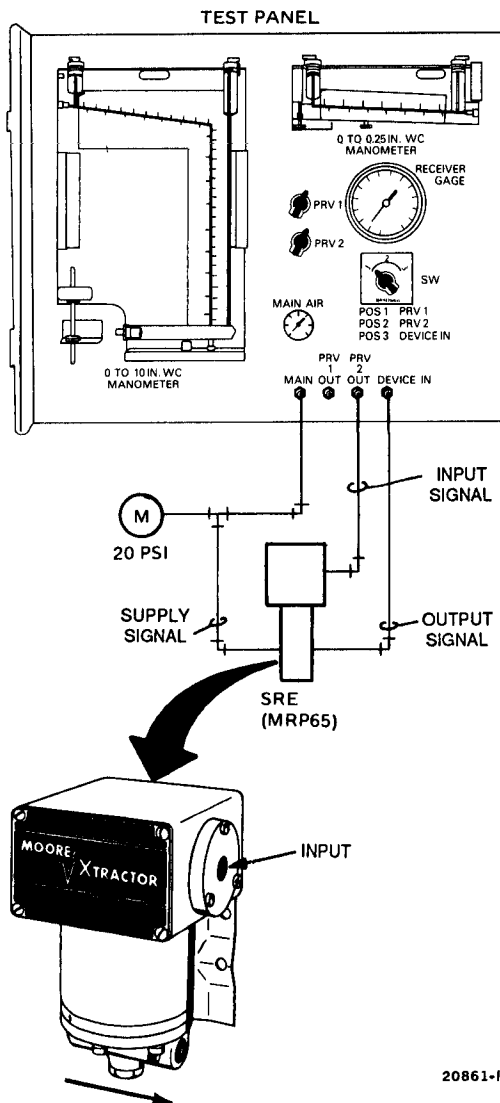
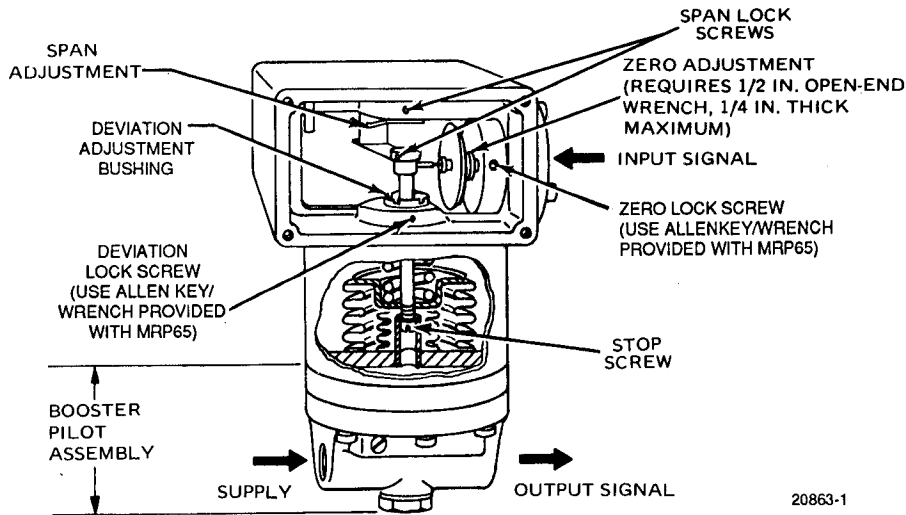

Fig. 11. Test Panel Setup for SRE (MRP65).
Fig. 13. SRE Calibration Adjustments.
1. Pipe SRE per Figure 11.
There are three MRP65 SRE calibrations: zero, deviation, and span adjustments. The calibrations must be performed in the same order. A stop screw alignment adjustment is also incorporated, but should not be used unless the screw has been turned. For complete calibration, remove SRE from service and pipe it to the test panel per Figure 11. See Figure 13 for location of calibration adjustments. See Table 3 for the full range of input/output values.
2. The SRE (MRP65) calibration check related to Figure 11 provides switch SW settings and SRE output tolerances acceptable in the following procedures. The Moore calibration instructions can be used; however, for airflow applications, the following procedures are suggested.
- b. Loosen deviation lock screw located below slotted deviation adjustment bushing (Fig. 13).
- a. Loosen span lock screws (Fig. 13).